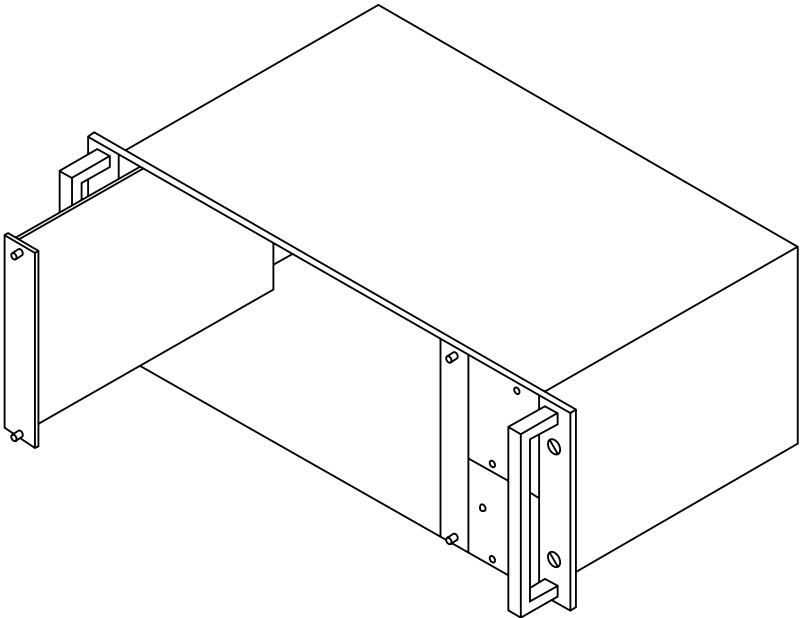
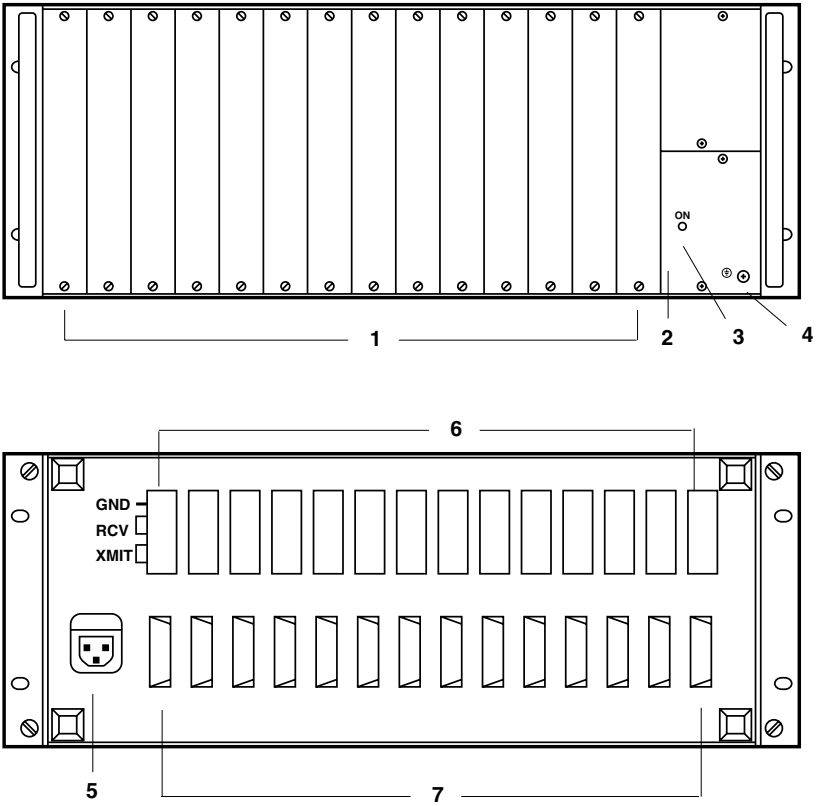

Figure 3-1. The RackNest 2/14: Card installation.
Figure 3-2. The RackNest 2/14 illustrated.
The RackNest 2/14 is a special 19" rack component designed to host a number of our short-haul modems and line drivers. As shown in Figures 3-1 and 3-2, it consists of a rack chassis (with one or two power supplies) into which you can plug as many as 14 modem or driver cards.
You will be installing the LDM-256 Card in the RackNest 2/14 as shown in Figure 3-1 below. The front and rear panels of the Nest are shown in Figure 3-2; the numbered connectors, controls, and indicators are described in Table 3-1.
1. Insert the Card into an empty slot on the Nest (see Figure 3-1). Do not use excessive force. If the Card does not go in easily, remove the Card, realign it with the Nest's enclosure guides, and push it into place.